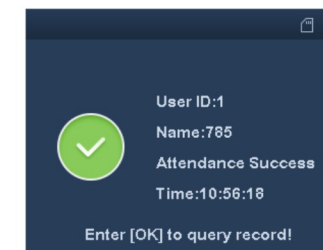
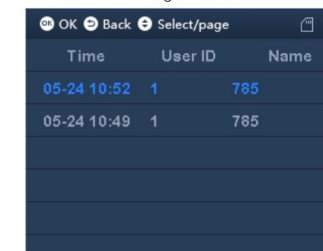

Figure 2-3
Figure 2-4
- After you pass personal attendance, click OK, to show personal attendance record, see Figure 2-3 and Figure 2-4.